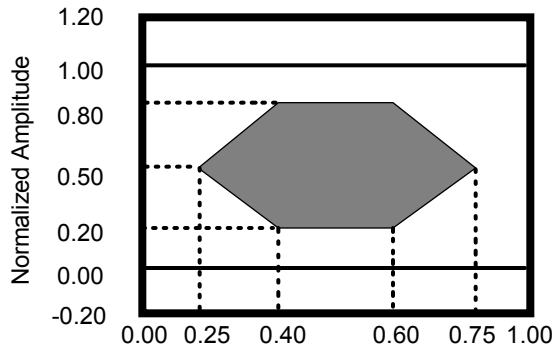

Figure 5 Optical Pulse Mask with Fourth Order Bessel-Thomson Filter Specified in ITU-T G.957
6. Refer to Figure 5.
Eye Mask for Optical Output	Refer to Figure 5